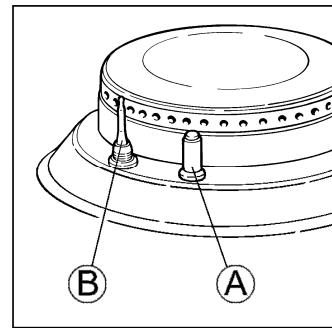

Fig. 7
- **Electric lighting of the burners with safety device** - The cook-top is equipped with electric ignition of the burners by means of spark plug "A" (Fig. 7). The spark plug operates when the push-button on the control panel is pressed. This button is marked by symbol (spark). To ignite the burner press the electric ignition push-button and, at the same time, press and turn in an anticlockwise sense the knob of the burner that is to be started to the symbol (large flame/ignition spark). Release the electric ignition push-button once the flame has appeared and keep the gas cock knob pressed for about 6 - 8 sec., so as to let the safety thermocouple "B" heat-up. Release the knob and turn it to the position desired.